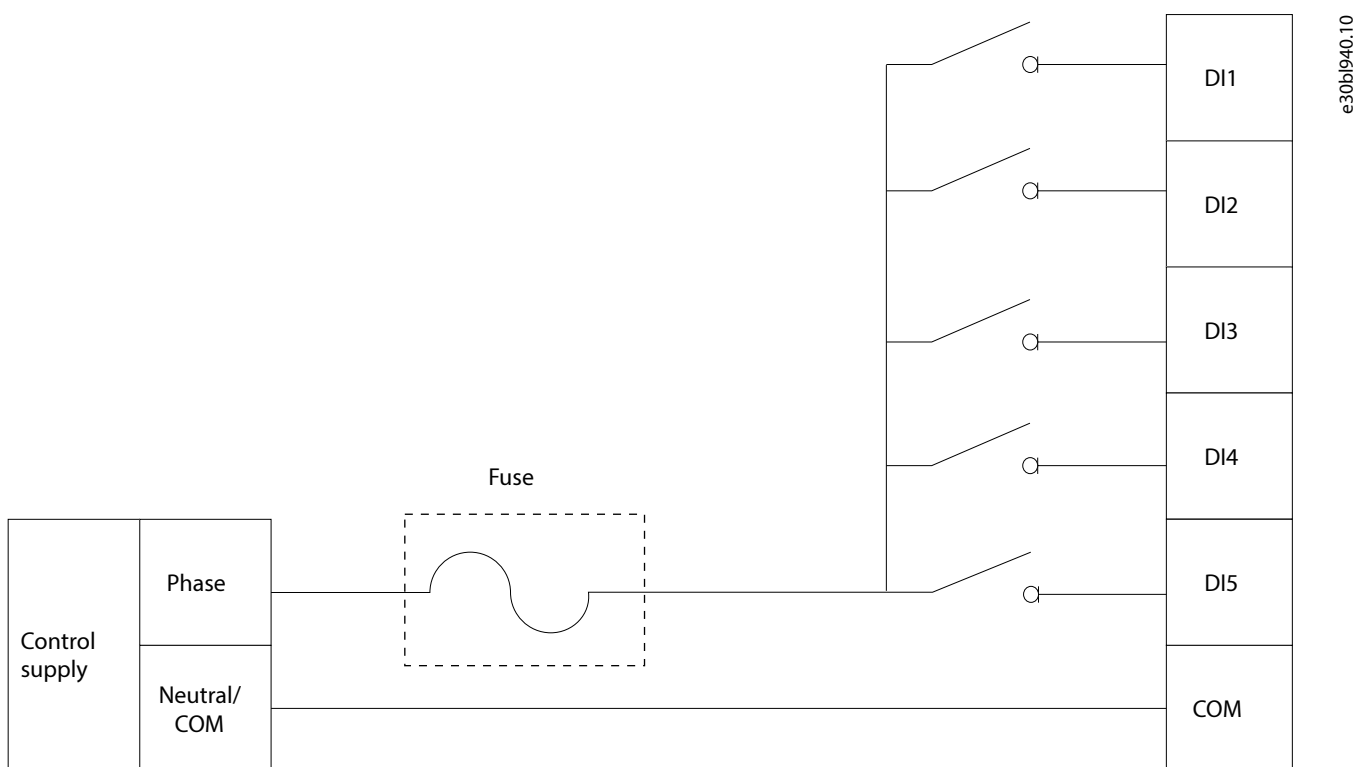

Figure 52: Wiring Configuration for Operation up to 2000 m (6560 ft) Altitude
- Operation up to 2000 m (6560 ft) altitude: All 5 digital inputs can be used, and the same phase must be used for all inputs. See Figure 52.